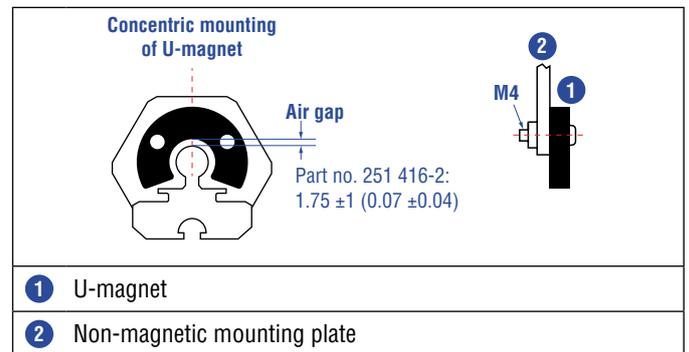
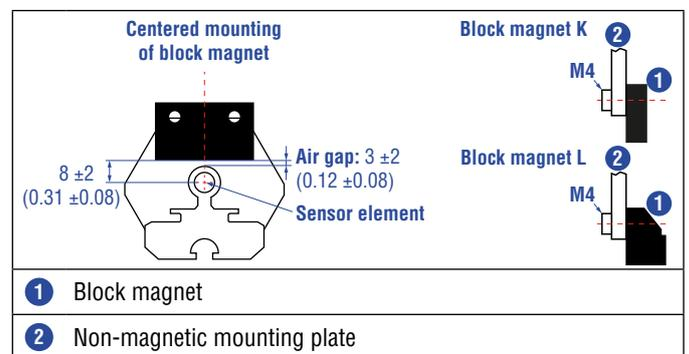

Fig. 65: Mounting of U-magnet (part no. 251 416-2)
Fig. 66: Mounting of block magnet (part no. 403 448)
- The maximum permissible air gap must not be exceeded (Fig. 65/ Fig. 66).